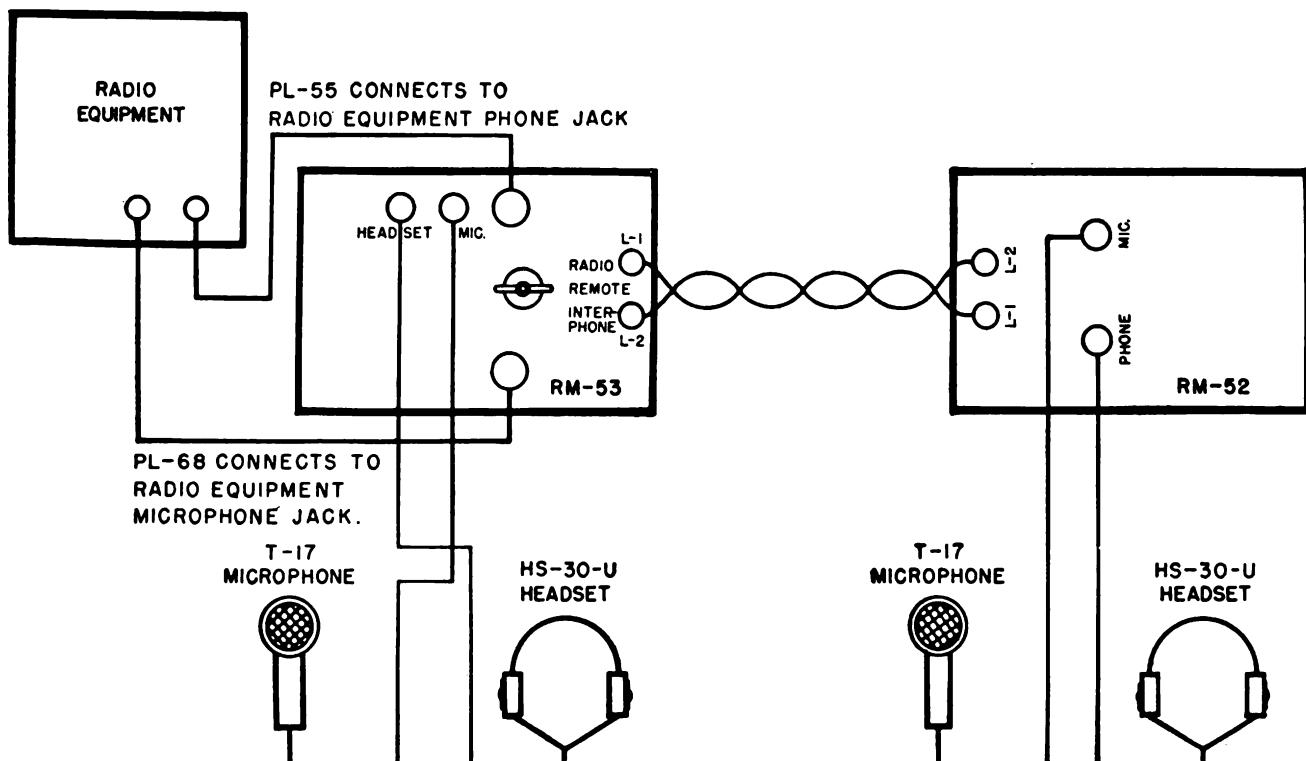

Figure 42. Remote Control Equipment RC-261, cording diagram.
(1) Plug the headset and microphone into the jacks in the panel (fig. 42) of Control Unit RM-53. Plug the receiver and microphone cords of the control unit into the PHONES and MIC jacks on the panel of the radio set.
(2) At the remote point, plug the headset and microphone into the jacks on the panel of Remote Control Unit RM-52 (fig. 42).
(3) Interconnect Control Unit RM-53 and Remote Control Unit RM-52 with field wire.
(4) When remote communication is desired, set the switch on Control Unit RM-53 to the REMOTE position. In this position the radio set is operated and modulated from Remote Control Unit RM-52, and is monitored by both units.